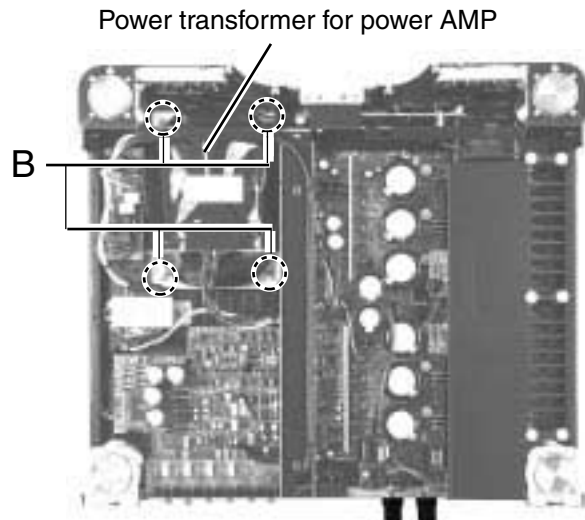

Fig.20
■ **Removing the transformer for power AMP** (See Fig. 20)